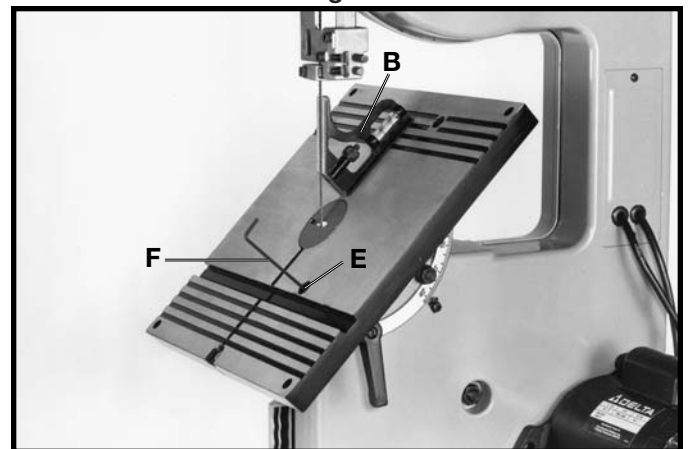

Fig. 30
3. Tilt the table to the 45 degree position (all the way to the front) as shown in Fig. 30. Place a square (B) on the table and against the blade and check to see if the blade is 45 degrees to the table surface. If an adjustment is necessary, proceed as follows:
4. Loosen lock nut underneath table on bottom of adjusting screw (E) Fig. 30, and turn adjusting screw (E) with wrench (F) provided, until blade is 45 degrees to the table. After adjustment is completed, tighten lock nut underneath table on bottom of screw (E).